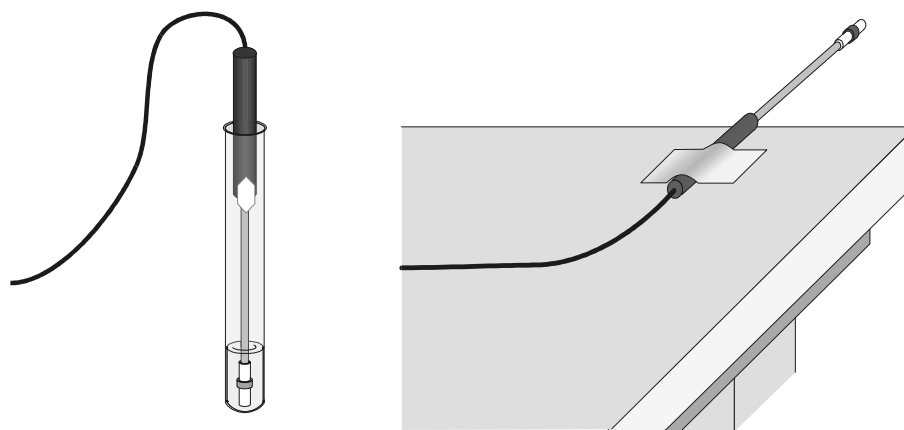

Figure 1
4. Wrap Probe 1 and Probe 2 with square pieces of filter paper secured by small rubber bands as shown in Figure 1. Roll the filter paper around the probe tip in the shape of a cylinder. **Hint:** First slip the rubber band up on the probe, wrap the paper around the probe, and then finally slip the rubber band over the wrapped paper. The paper should be even with the probe end.
7. After the probes have been in the liquids for at least 30 seconds, select **(Start)** to begin collecting temperature data. A live graph of temperature vs. time for both Probe 1 and Probe 2 is being plotted on the calculator screen. The live readings are displayed in the upper-right corner of the graph, Probe 1 first, Probe 2 below. Monitor the temperature for 15 seconds to establish the initial temperature of each liquid. Then simultaneously remove the probes from the liquids and tape them so the probe tips extend 5 cm over the edge of the table top as shown in Figure 1.
8. Data collection will stop after 4 minutes (or select **(Stop)** to stop *before* 4 minutes has elapsed). On the displayed graph of temperature vs. time, each point for Probe 1 is plotted without a marker, and each point for Probe 2 with a square. As you move the cursor right or left, the time (X) and temperature (Y) values of each Probe 1 data point are displayed above the graph. Based on your data, determine the maximum temperature,  $t_1$ , and minimum temperature,  $t_2$ . Record  $t_1$  and  $t_2$  for Probe 1.